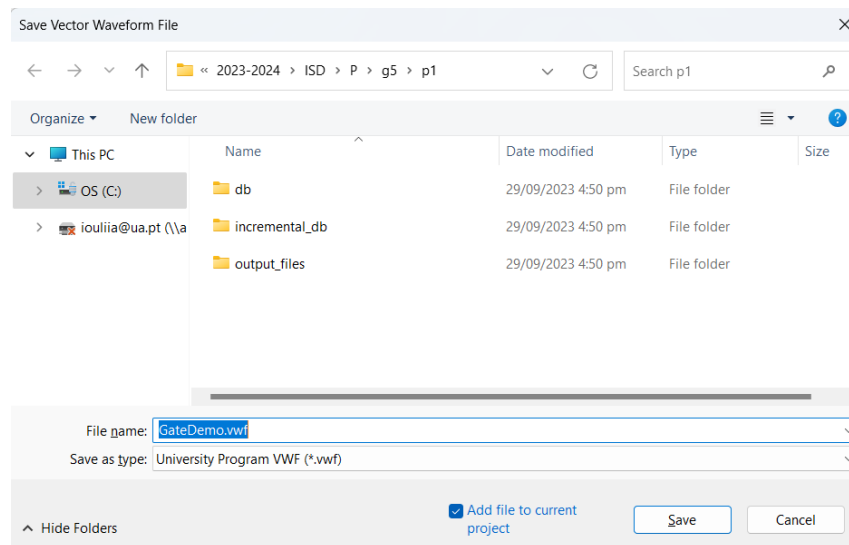

Figure 21 - Dialog for saving the file “GateDemo.vwf”.
13. After specifying the simulation values (vectors), save the file with the name “GateDemo.vwf” (Figure 21).